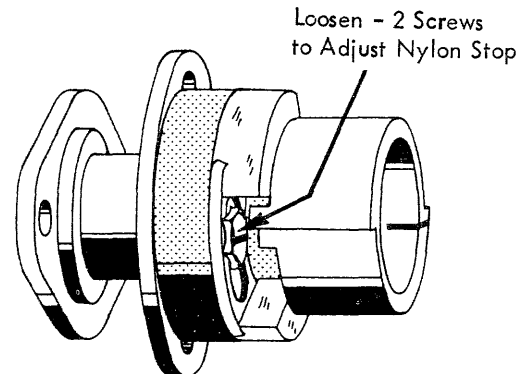

FIGURE 45. Cycle Clutch Overthrow Stop - Early
- Cycle Clutch Overthrow Stop - With the cycle clutch latched and the cycle shaft backed up against the check pawl in its rest position, advance or retard the overthrow stop on the cycle clutch collar so that it will allow the cycle shaft to overthrow its latched position by .007" to .015" (Fig. 44-late or Fig. 45-early).